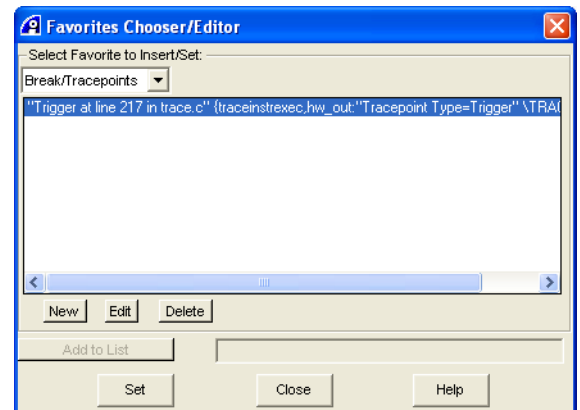

Figure 8-3 Favorites/Chooser Editor dialog box
3. Select **Debug** → **Breakpoints** → **Set Break/Tracepoint from List** → **Break/Tracepoint Favorites...** from the Code window main menu to display the Favorites/Chooser Editor dialog box. Figure 8-3 shows an example. Any previous tracepoints that have been added to the list are shown.